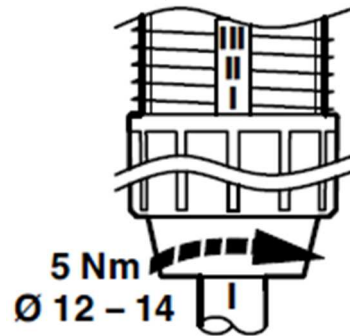

Figure 29: tightening torque
- tighten the nut-body assembly to the fixed section of the bulkhead connector mounted on the fixture body, in this way providing the electrical connection (tightening torque: 5 Nm) (Fig. 29). Use special tubular wrench 22 mm for bulkhead connector tightening (P/N. 798.0006)